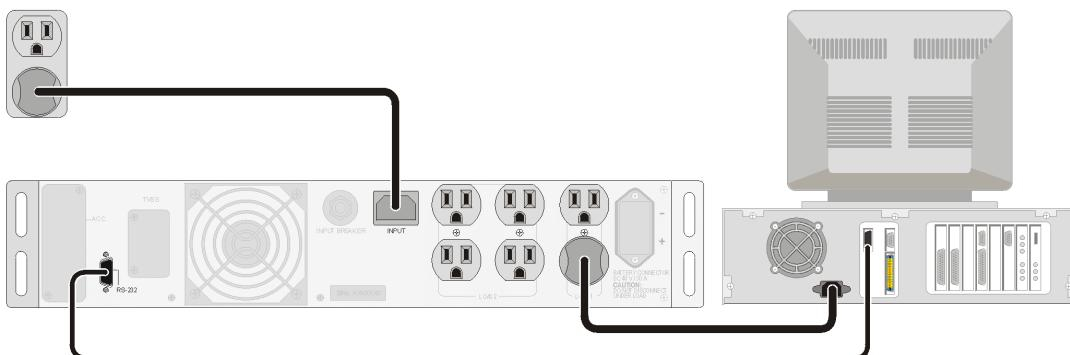

Fig 2.6 Connecting the UPS to the utility supply and to the load
Connect the interface signal cable between the RS-232/dry contact port on the rear panel of UPS and COM1 or COM2 of your computer if necessary. See fig. 2.6.
2. Plug the power cord of the equipment into the output receptacles on the rear panel of the UPS as shown in fig. 2.6. Spread the load over the output receptacles as equally as possible.
Use a suitable power cord, and plug it into the input socket (see fig. 2.6)